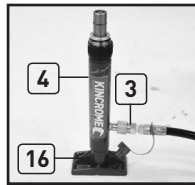

Fig.3
4. Fit the flat base plate (16) male connector (17) and desired Extension tubes (5-8) with the hydraulic Ram (4) [Fig.3].